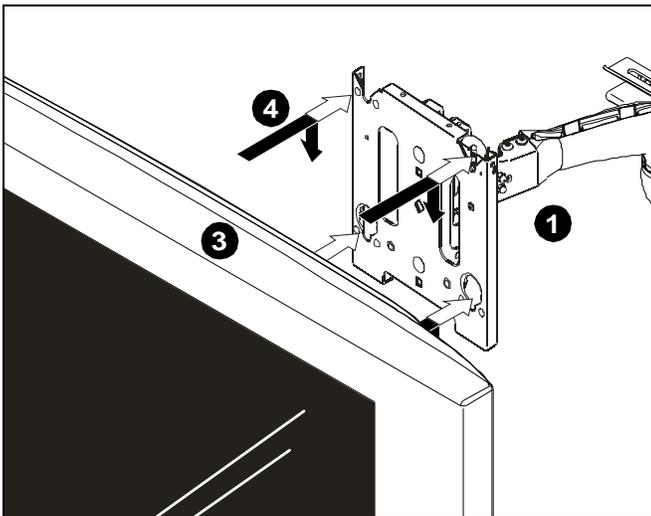
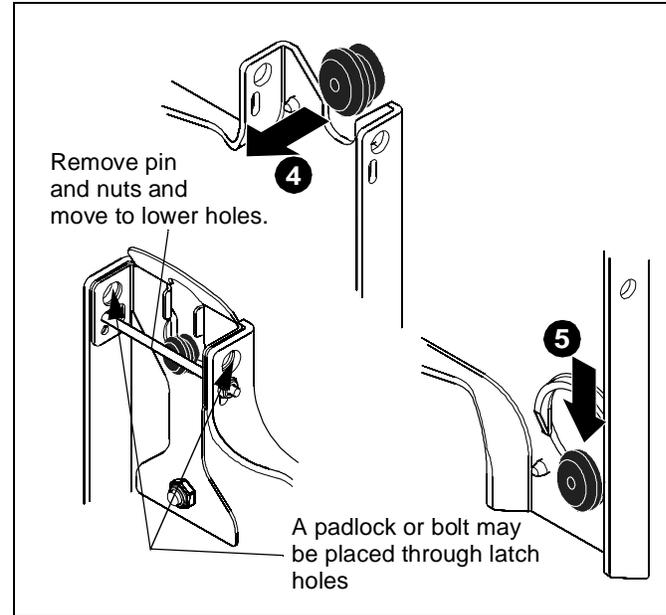

Figure 6
Figure 7
1. Move mount faceplate to extended position by grasping faceplate and pulling outward away from wall. (See Figure 6)
2. While supporting both sides of display, align four mounting buttons on display or interface bracket with four mounting holes in faceplate. (See Figure 6)
3. Lower display into place listening for audible "click" to ensure recessed area of mounting buttons are properly seated in lower area of mounting holes and "click lock" mechanism has engaged. (See Figure 6) and (See Figure 7)
**NOTE:** Holes are provided in the faceplate for use with a padlock or similar locking device, if desired. In addition, the pin and nut may be removed from the upper holes and moved to the lower holes for use as a more permanent locking device. (See Figure 7)